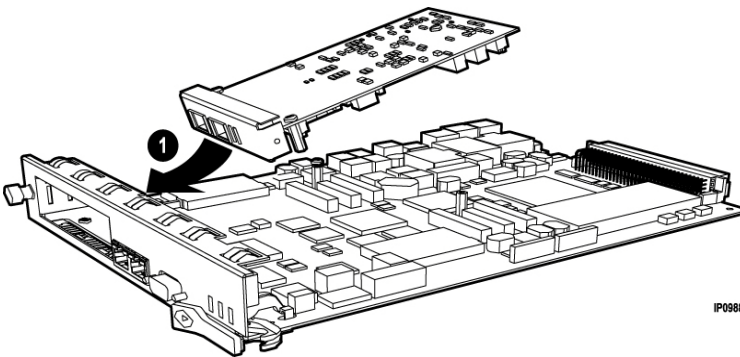
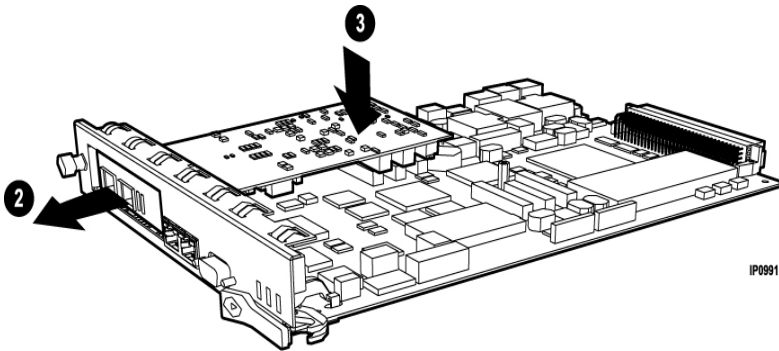

Figure 41: Position module at an angle (AX)
Figure 42: Slide in and seat module (AX)
6. Carefully slide the MMC face plate under the lip of the controller face plate. See Figure 41. Do not push the MMC past the controller face plate as shown in Figure 42.